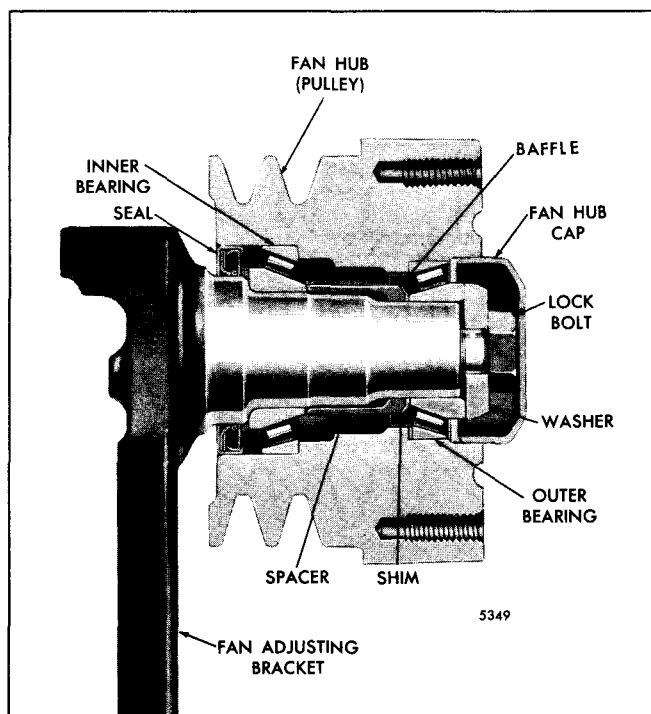

Fig. 5 – Shaft Type Fan Hub Assembly (6V Engine)
- Refer to Fig. 5 and remove the fan hub cap.
To replace the shaft, remove the groove pin and press the shaft from the adjusting bracket. Press the new shaft in the bracket to the dimension shown in Fig. 5. Then, drill the shaft, using the hole in the bracket as a guide, and install a groove pin.
Assemble the fan hub and spindle shown in Fig. 5 as follows: